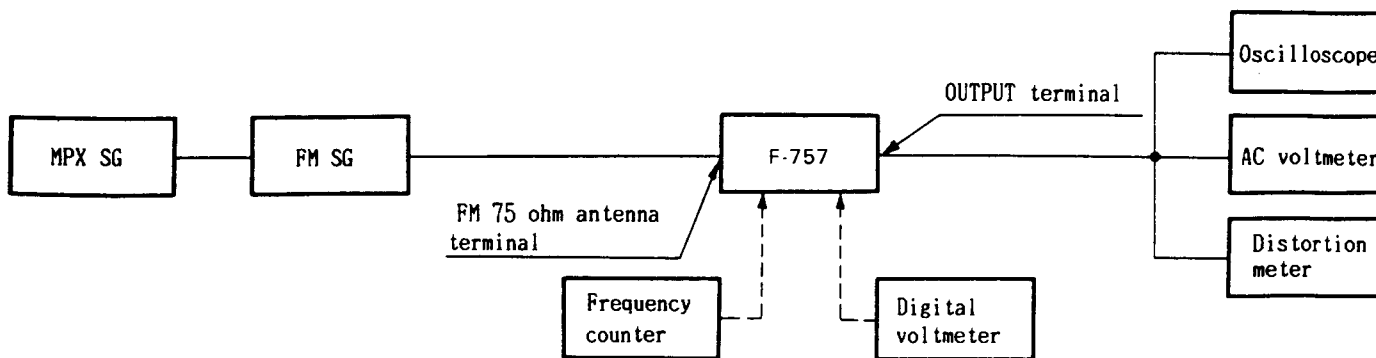

Fig. 6-1 FM Tuner Connection
- Connect as shown in Fig. 6-1.